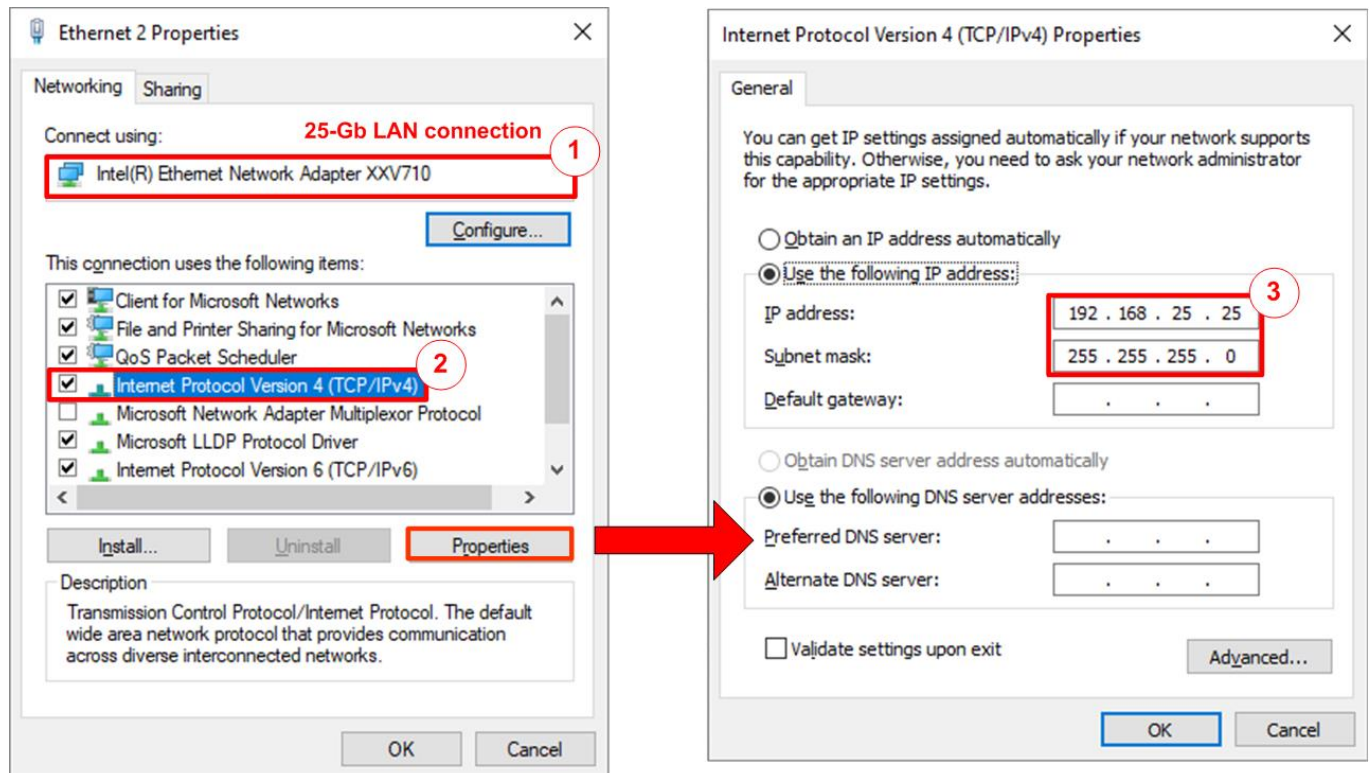

Figure 2-1 Setting IP address for PC
- 1) Open Local Area Connection Properties of 25-Gb connection, as shown in the left window of Figure 2-1.
- 3) Set IP address = 192.168.25.25 and Subnet mask = 255.255.255.0, as shown in the right window of Figure 2-1.